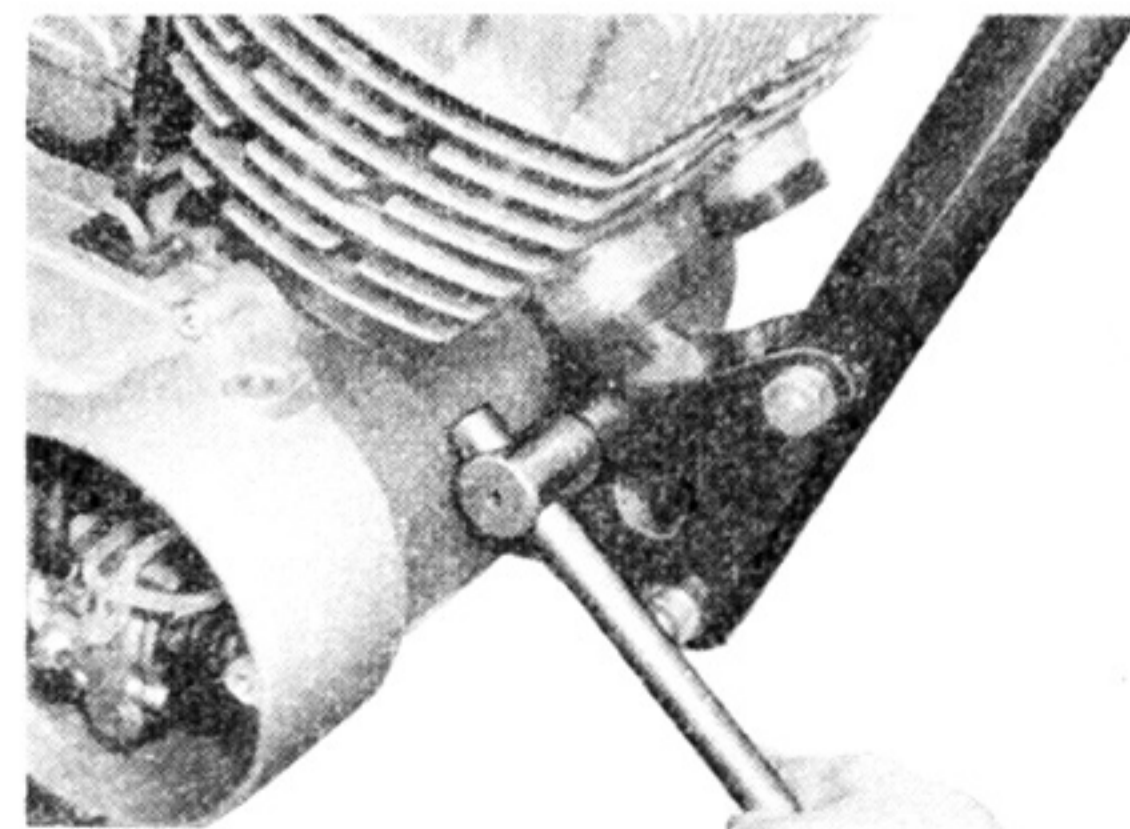

Fig. 3-1-12
12. Remove the engine mounting bolts, and remove the engine from the chassis. (Fig. 3-1-12)